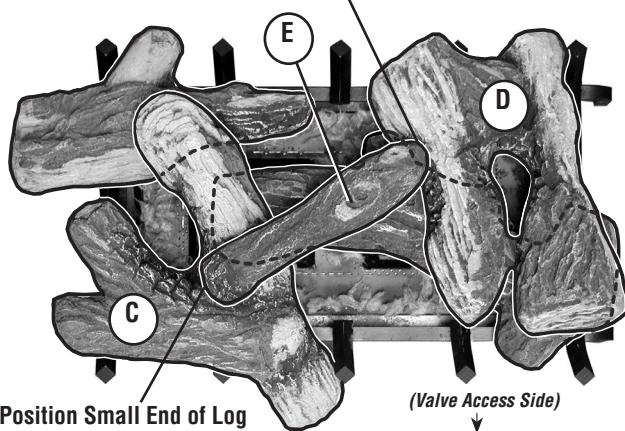

Figure 75
10. Place Log (E) as shown in *Figure 75*.